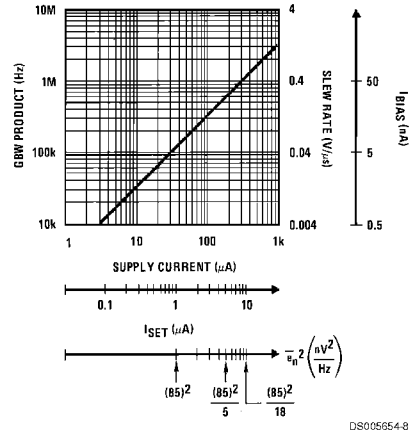

FIGURE 3. LM146 Typical Characteristics
**Isolation Between Amplifiers:** The LM146 die is isothermally layed out such that crosstalk between *all 4* amplifiers is in excess of -105 dB (DC). Optimum isolation (better than -110 dB) occurs between amplifiers A and D, B and C; that is, if amplifier A dissipates power on its output stage, amplifier D is the one which will be affected the least, and vice versa. Same argument holds for amplifiers B and C.
**LM146 Typical Performance Summary:** The LM146 typical behaviour is shown in Figure 3. The device is fully predictable. As the set current,  $I_{SET}$ , increases, the speed, the bias current, and the supply current increase while the noise